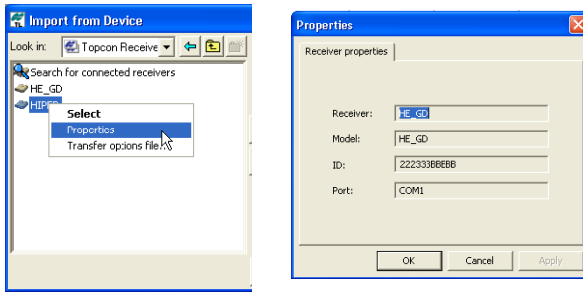

Figure 5-7. Receiver Properties
4. To view information about the receiver, right-click the receiver and select the *Properties* option (Figure 5-7 on page 5-5).